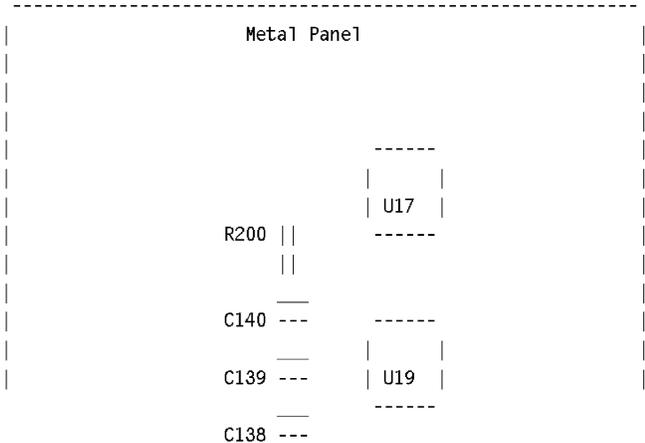

Figure 1 - Location of C140 on Jitter Receiver Module
7. With the Jitter Receiver Module on the bench, locate the capacitor C140 (see Figure 1).